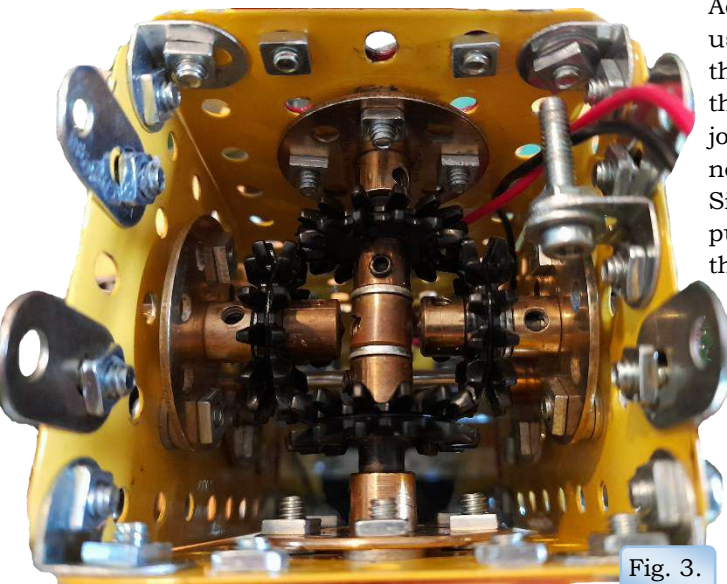

Fig. 3.
1. Added a Collar between the Multipurpose Gears. Fig 3.
2. Moved the Bush Wheels inwards with 3 x Washers and removed the small plastic Spacers. Fig. 3.